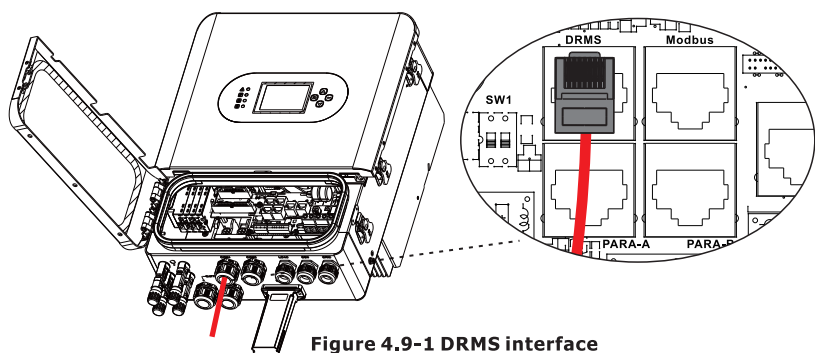

Figure 4.9-1 DRMS interface
Step 1. Open the latch from the right side of the machine. See Figure 4.9-1.